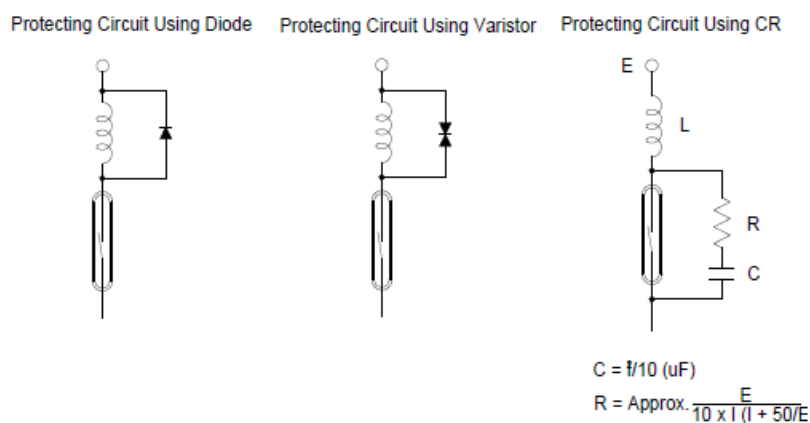

Figure 2.2
- For inductive loads or high voltage/high current resistive loads, provide circuit protection for a switch(es) (See Figure 2.2). See Specifications on page 2 for switch ratings.